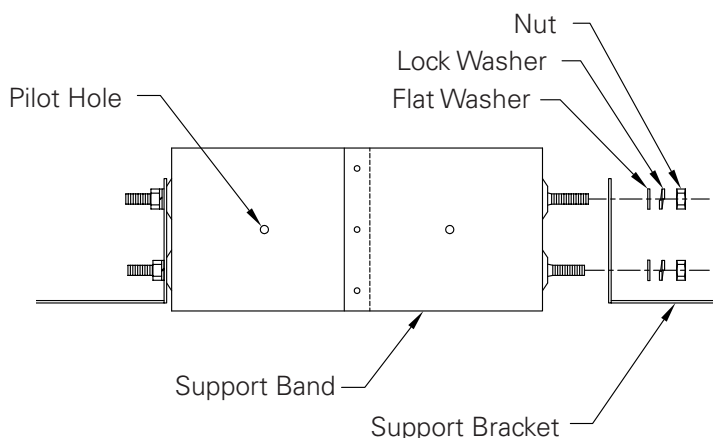

FIGURE 52
Slide the Support Band around the chimney and align over framed opening. Secure to casing with four (4) sheet metal screws and assemble brackets. **(Figure 52)** Nail the brackets to the framing using a minimum of (2) nails or screws per bracket.